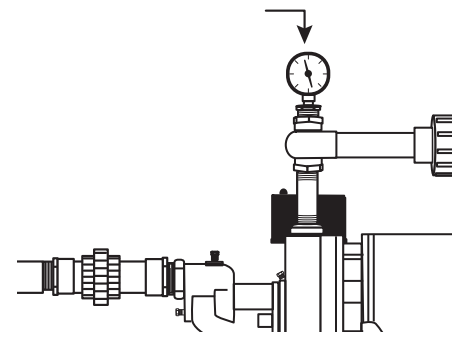

Figure 16 - Replace priming plug
4. Thread in priming plug and then open optional ball valve if installed by turning handle to line up with the pipe. (Fig. 16)